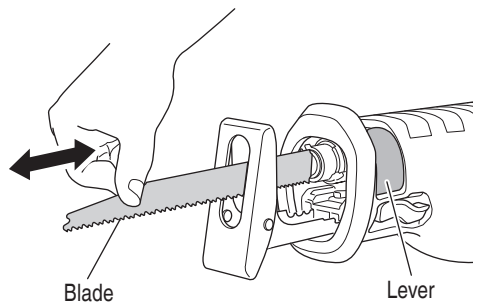

Fig. 4
- (3) When you release the lever, the spring force will return the lever to the correct position automatically.
- (4) Pull the back of the saw blade two or three times by hand and check that the blade is securely mounted. (Fig. 4)